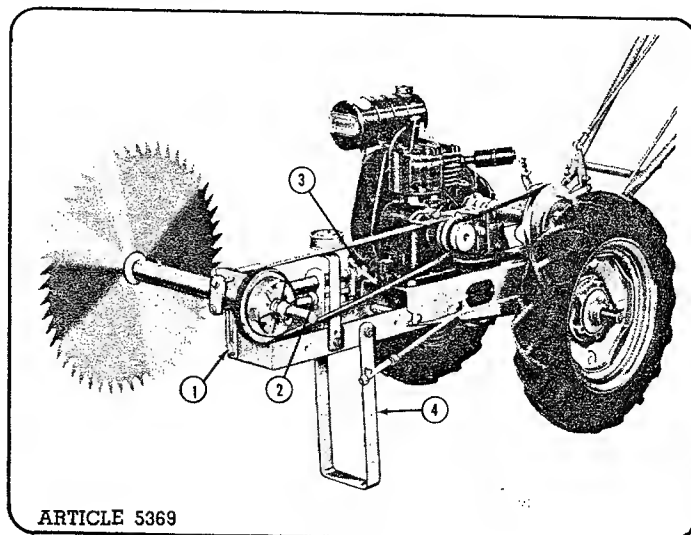

Fig. 2
1. Bolt seat brace (1) to axle assembly (2) as shown.
2. Bolt seat (3) to seat frame assembly (4) and seat brace (1) with bolt (5) as shown.
3. Bolt brake assembly (6) to axle assembly (2) as shown, attaching brake spring as shown on page 22.
5. Slide tongue assembly (7) into axle assembly (2) and adjust to desired length, setting with cotter pin (8).
6. Attach tongue extension assembly (11) to tongue with tongue pin (12) as illustrated in Figure 2.
7. Attach foot rest (9) to tongue assembly (7) with U-Bolt (10) as shown.
8. Hitch complete sulky attachment to tractor with draw bar pin as illustrated in Figure 2.
1. Follow same steps for mounting saw in horizontal position except arbor should be placed in vertical position by loosening arbor prop nut (1, Fig. 2) and swinging saw blade into vertical position.
2. Arbor pulley should be lined up with inside groove of engine pulley as illustrated in Fig. 2.
3. Tighten set collar (2, Fig. 2) on adjusting screw assembly and turn tightener screw (3, Fig. 2) until belt is tight; then lock with nut.
1. Place saw in vertical position as shown in Fig. 2.
1. To raise or lower stand (4, Fig. 2) hold down tractor handles slightly and move left clutch lever to the rear or forward. Stand must be raised when using saw in horizontal position (Fig. 1). Lower stand when using saw in vertical position (Fig. 2) except when using cradle.